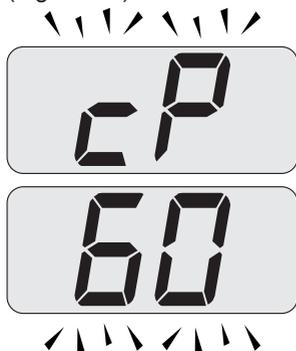

Fig. 10.21
- Press key 14 to vary the output in chimney sweep mode: when the LCD display displays the letters **cP** that alternate with the heating water temperature value (e.g. **60**), the "flue sweep function" is at maximum (eventually range rated) output in heating mode (Fig. 10.21).